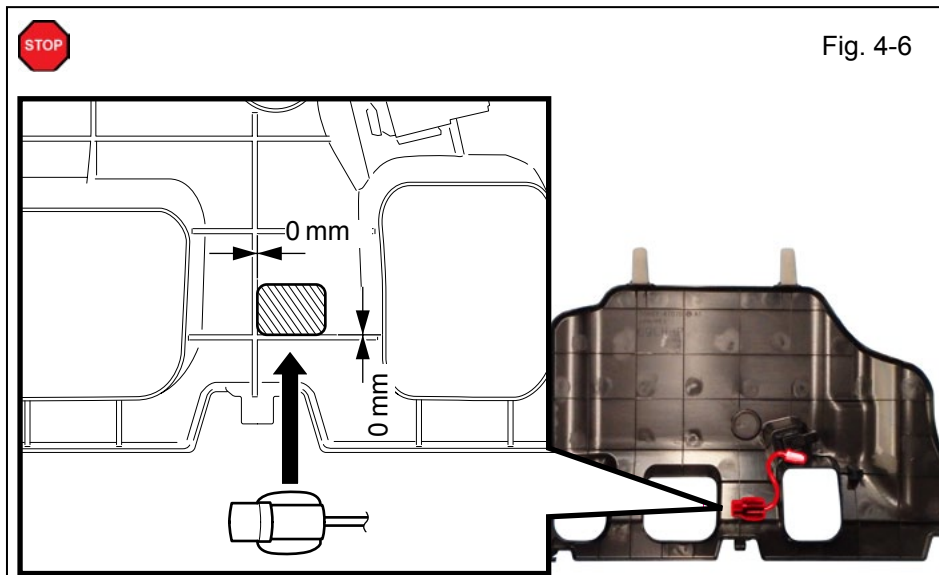

Fig. 4-6
- h. Using the VDC approved cleaner and Cleaning Method, clean the area indicated on the backside of the Glove Box Under Cover.(Fig. 4-6)
- i. Attach the GBS Microphone to the backside of the Glove Box Under Cover as shown. (Fig. 4-6)
**NOTE:** Make sure to align GBS Microphone to the Glove Box Under Cover. (Fig. 4-6)